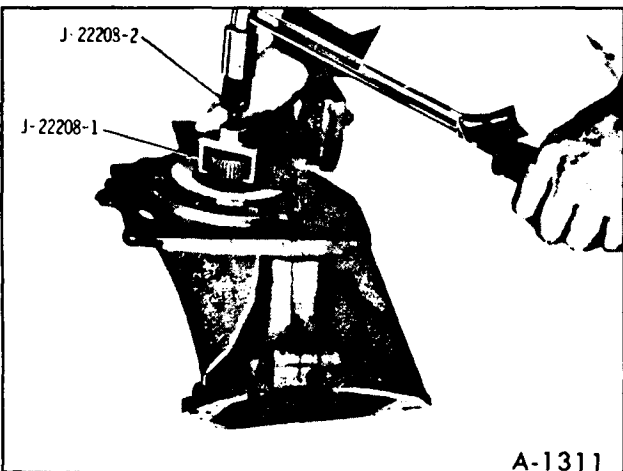

Figure 23—Checking Pinion Pre-Load
10. Rotate housing so that the pinion is up. Check pinion bearing pre-load as shown in Figure 23. Record the pinion bearing pre-load.